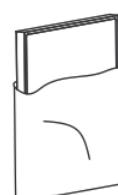

Fig. 5
6. **Remove the protective film from the new activated carbon and HEPA filters (Fig. 5).**
7. Install the new activated carbon filter (4) in the air purifier with the filter tabs outward.
8. Install the new HEPA filter (3) in the air purifier with the filter tabs outward.
9. Install the prefilter (2) in the air purifier so that all snap fasteners are engaged. The prefilter grill arrows show the top side, and the grill tabs should be located outward when installed.
10. Close the front panel (1) by fixing it properly on the latches along the lower edge of the housing (6). Verify that all magnetic latches hold the front panel properly in place.